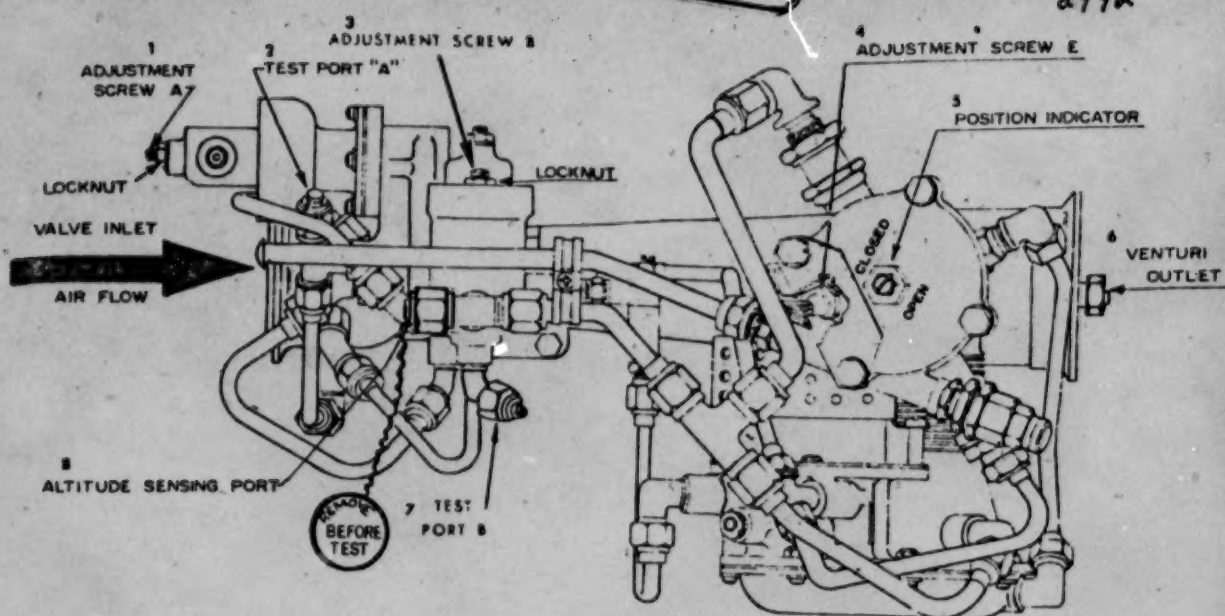

Figure 7A
- d. _____ Take the cap from the altitude sensing port (refer to figure 7A).
2. The valve should have opened and closed with a minimum pressure of 10 PSI. If not, adjustment to screw "E" would be made (figure 7A).